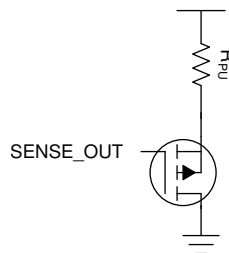

Figure 8-7. Additional Components for the PG Pin to be Pulled Up to Another Rail
Because the power-good (PG) pin is pulled up internally to the output rail, this pin cannot be pulled up to any voltage or wire AND'd like a typical open-drain PG output can be. If this signal must be pulled up to another logic level then an external circuit can be implemented using a PMOS transistor and a pullup resistor. Implementing the circuit shown in Figure 8-7 allows the outputs to be pulled up to any logic rail. If a PMOS transistor is used make sure to pick a transistor with a low threshold voltage as this will determine the output low voltage. this can also be done with a NMOS transistor, but it inverts the logic. This implementation also allows the outputs to be AND'd together like the traditional power-good pins.